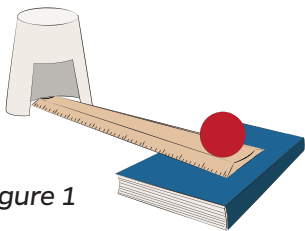

Figure 1
- » To save time, pre-cut the openings in the paper cups by cutting 3 cm wide and 3 cm tall sections from the top of each cup. See Figure 1.
4. Review the Procedure for the activity, refer to Figures 1 and 2, and demonstrate how to cut the cup and set up the support track if needed. (NOTE: Long, flat tables or tile floors work well!)